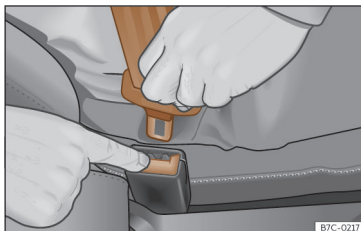

Fig. 22 Release the seat belt's latch plate.
- Press the red button on the buckle >>> **Fig. 22.** The latch plate is released from the buckle.